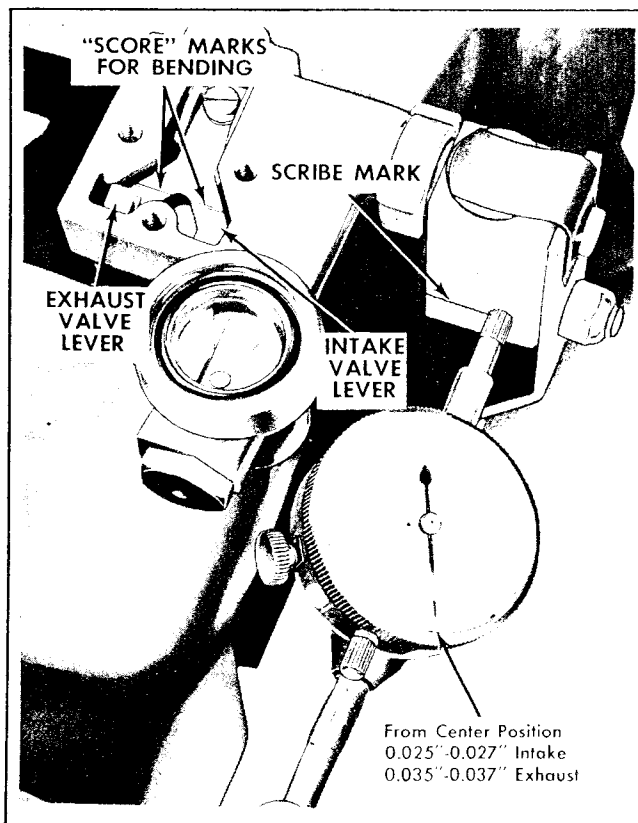

Figure 12-11: Adjusting Air Lever Gap
- (1) Apply available vacuum and regulate air pressure to approximately 95 P.S.I.
- (2) Move overtravel lever fore and aft several times and then back to center position.
- (3) Starting at center position, slowly move lever to where air intake valve just begins to open. Listen for escaping air. Note reading on dial at this point. Reading should be 0.025" to 0.027" from lever center position. If necessary bend intake valve lever to correct setting, refer to Figure 12-11.
- (4) Return overtravel lever to center position. Slowly move lever to exhaust side and at the same time note the vacuum gauge reading. When vacuum just begins to fall, the exhaust valve has opened. Valve should open when overtravel lever is moved 0.035" to 0.037" from center position. If necessary, bend exhaust valve lever to correct setting, refer to Figure 12-11.
this point which should register 0.025" to 0.027". If necessary, bend intake valve lever to correct setting. Refer to Figure 12-11.